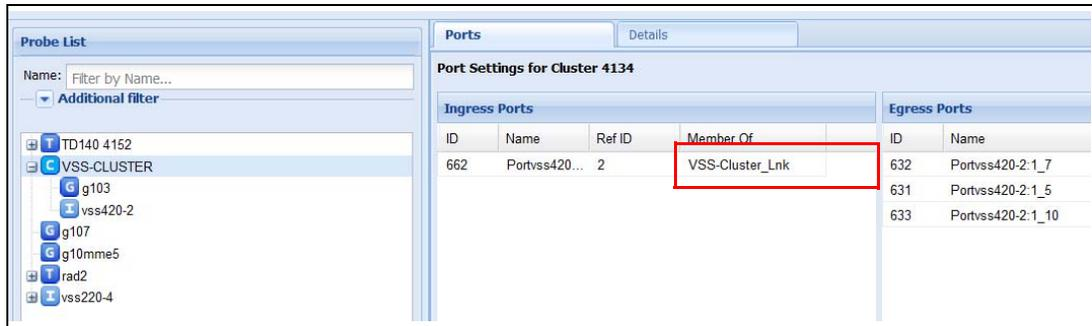

Figure 3.17 - Iris Admin Probes Tab - Physical Link Assigned for Cluster
7. The IPB port settings on the Probes tab displays the configured physical link in the Member Of column of the Ingress ports area (Figure 3.17).
- 8. The Cluster port settings on the Probes tab displays the configured physical link in the Member Of column of the Ingress ports area (**Figure 3.17**).